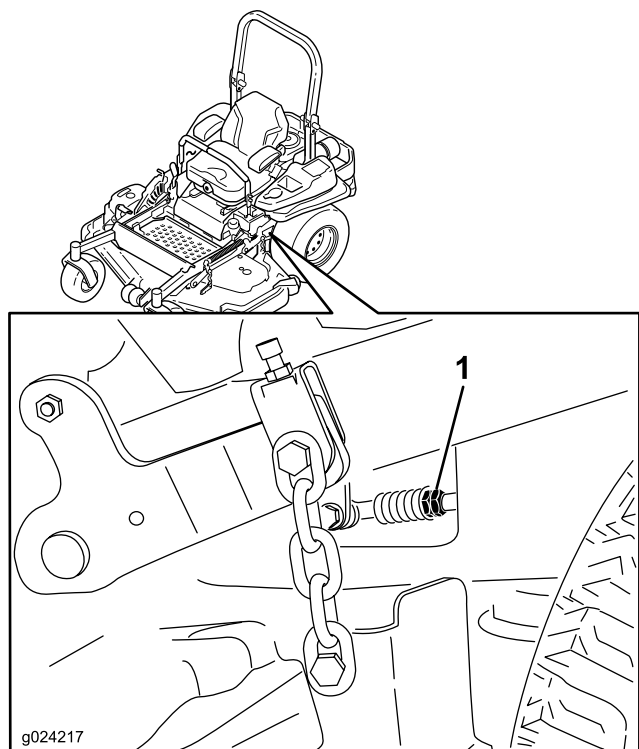

Figure 83
- Bring the motion control levers into the neutral position. Adjust pump control rod lengths by rotating the double nuts on the rod in the appropriate direction until the wheels slightly creep in reverse (Figure 83). Move the motion control levers to the reverse position and while applying slight pressure to the lever allow the reverse indicator springs to bring the levers back to neutral. The wheels must stop turning or slightly creep in reverse.